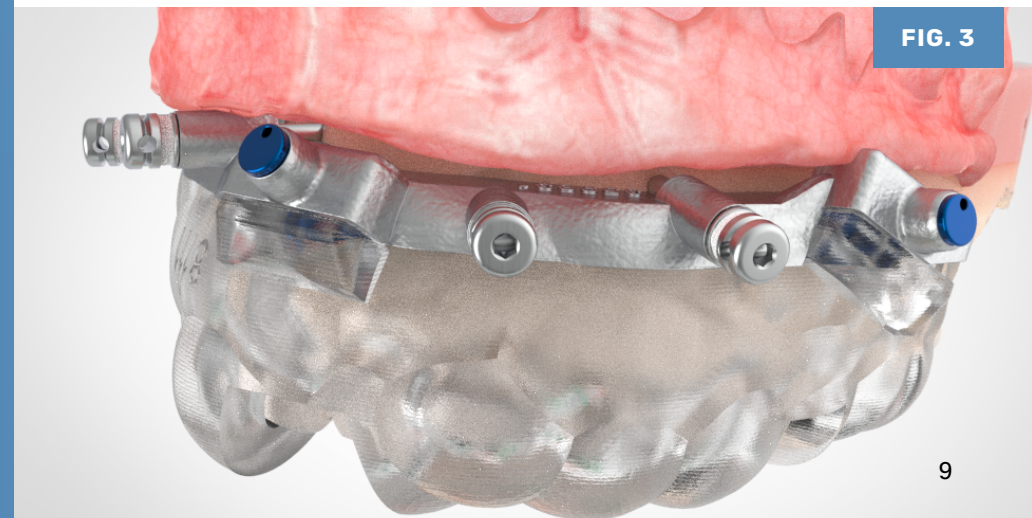

FIG. 3
4. Drill to depth and place the pins. **(FIG. 3)** If the first pin is inserted without resistance, drill 7/8 deep on the remaining pin sites and tap with the surgical mallet.